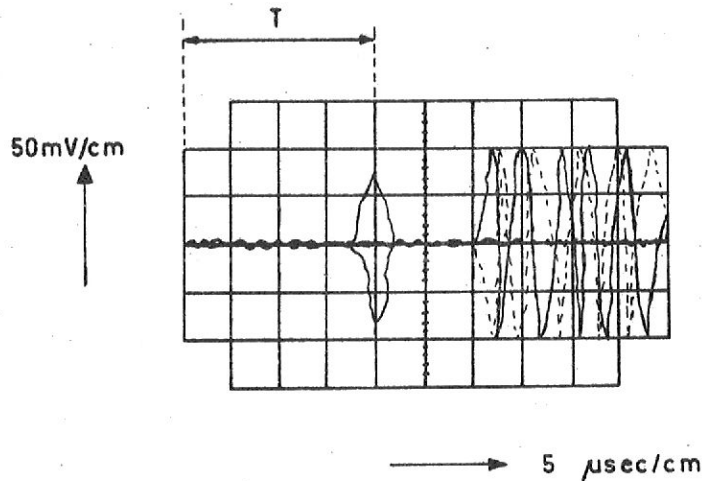

Figure 7-23
13. Positioning to track 005. (010)
18. When steps 14 and 16 have a different value, take the average deviation, in such a way that $T = 20 \text{ msec} \pm 3 \mu \text{ sec}$, see fig. 7-23 as well head 0 as head 1.